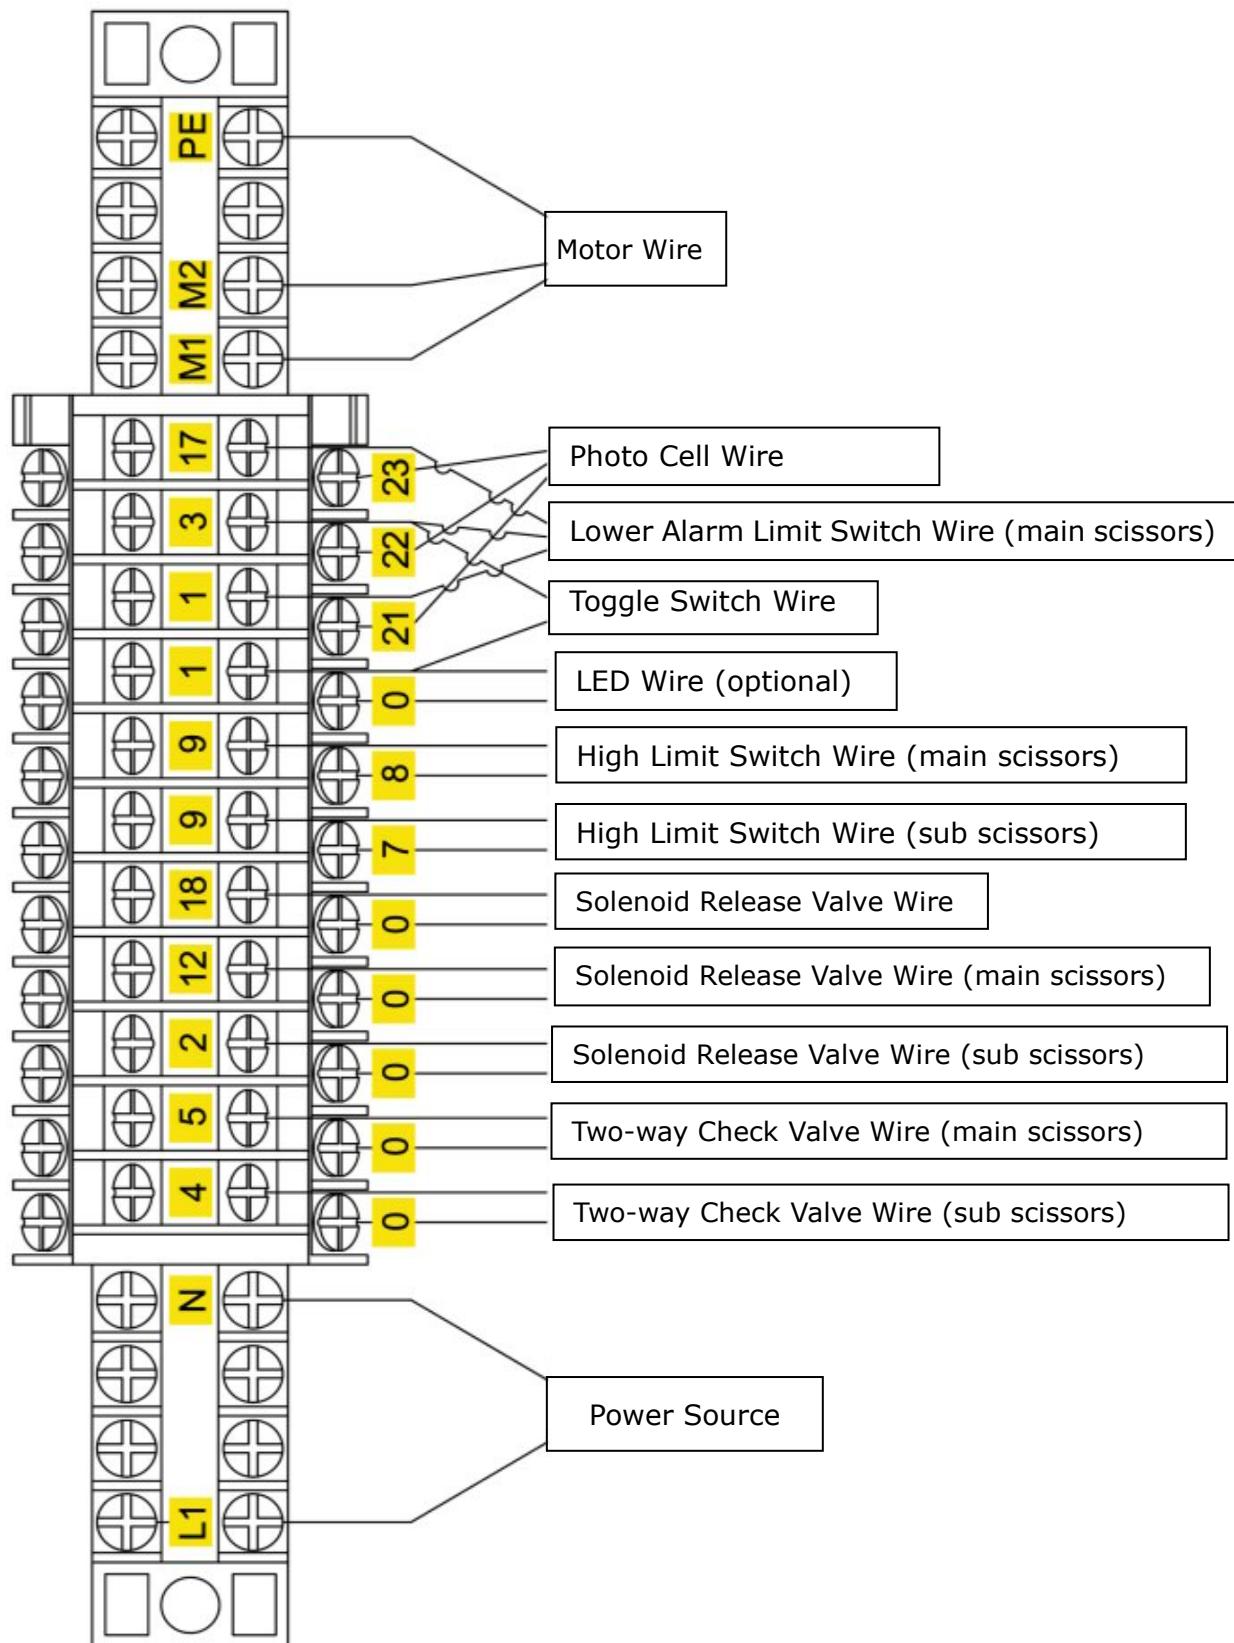

Fig. 20
2.1 Connect the power wire and limit switch wire according to the wiring diagram (**See Fig. 20**)